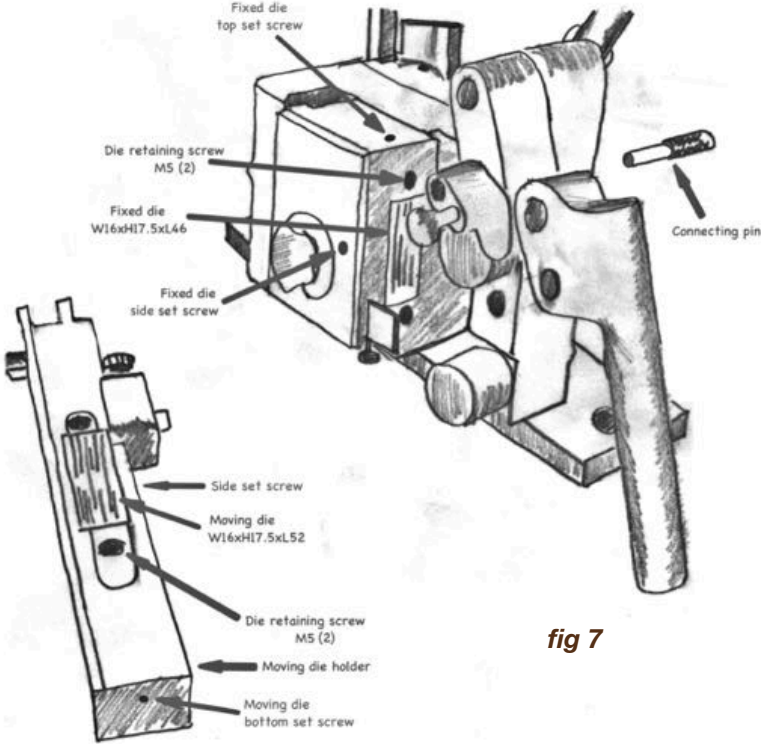

fig 7
- 1/ Remove the Connecting Pin holding the Moving Die Holder to the Threading Linkage (fig 7).